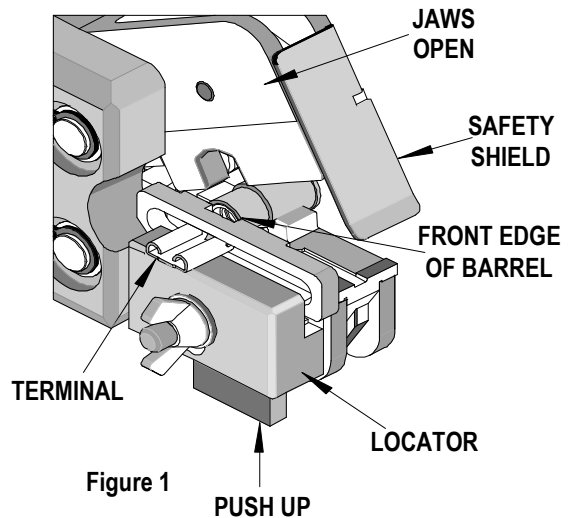

Figure 1
1. Push up on the locator blade and position the terminal with the barrel facing up into the nest with the front edge of the barrel against the locator. See Figure 1.